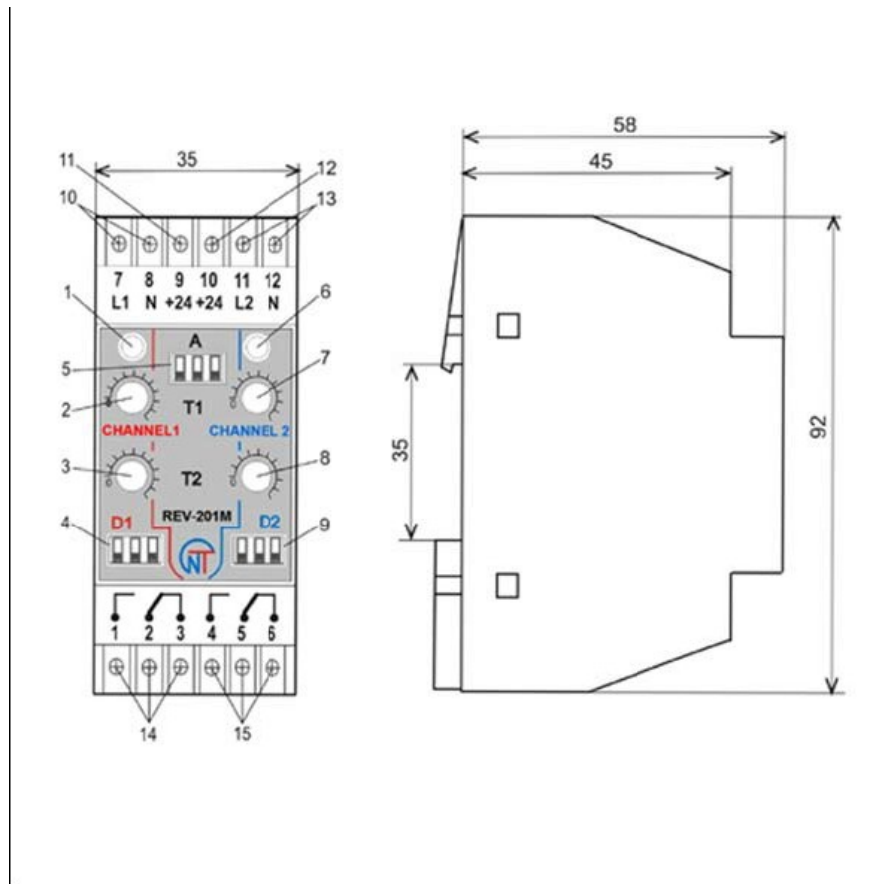

Figure 1
1.2.2 Front panel view and outer dimensions are shown on figure 1.
When the power supply is given – on the channel **GREEN** LED starts glowing and countdown begins. Time delay intervals are adjusted using the knobs **3** and **8** (Figure 1.) in the diapason **T2** for the Channel 1 and Channel 2 respectively – pause time.
After the turn **ON** time delay expiry REV-201M turns **ON** for the time determined by the knobs **2** and **7** (Figure 1) in the diapason **T1** – LED indicator change the color to **RED**.
- **To change the operation algorithm of the REV-201M it’s necessary to turn OFF the power supply for the time of 0,5-1 seconds and change the position of the DIP switches “A” on the front panel (See Figure 1).**
Select the required operation algorithm and set an appropriate position of DIP switches “A” (Fig.1).
- *When using the REV-201M in **Control operation mode** it doesn’t respond to any position or change of the knobs position **D1**, **D2** as well as timing knobs **T1**, **T2** (see Figure 1).*
Adjustment of time intervals should be made with the use of potentiometer knobs **2, 3** (Figure 1) for the Channel 1 and potentiometer knobs **7, 8** (Figure 1) for the Channel 2. Timing limits for the knobs are set up below with the use of DIP switches **4** (Channel 1), **9** (Channel 2) (see Figure 1) in accordance with the Table 3: